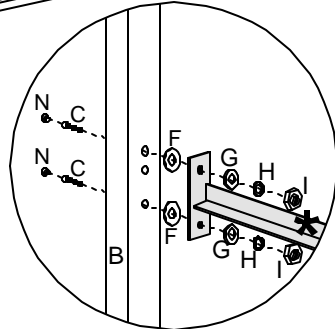

FIGURE 2
Only Bed Frame Bracket Shown In Figures 2 & 4.
Attach Bed Frame (*Not Included) to each Headboard Post (B), using 2 Long Allen Bolts (C), 2 Rubber Washers (F), 2 Large Metal Washers (G), 2 Spring Washers (H) & 2 Hex Nuts (I) per each side. Tighten all bolts and nuts. Insert Wood Plugs (N) to cover bolt heads. See Figure 2. Assembly of QUEEN BED is now complete. Please keep remaining hardware and A/I for future use.